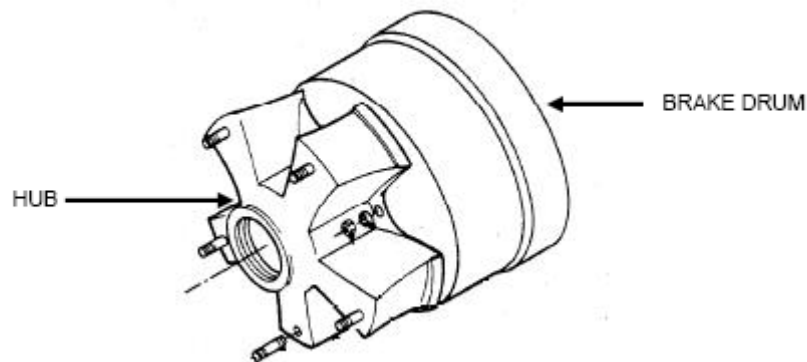

**Figure 8 Slack Adjuster and Push Rod**
30. **Removal.** Remove the slack adjuster as follows (Figure 8):
- 31. Installation.** Install the slack adjuster as follows (Figure 8):
- h. Remove the two nuts and washers retaining the brake chamber to the axle mounting bracket (Figure 8).